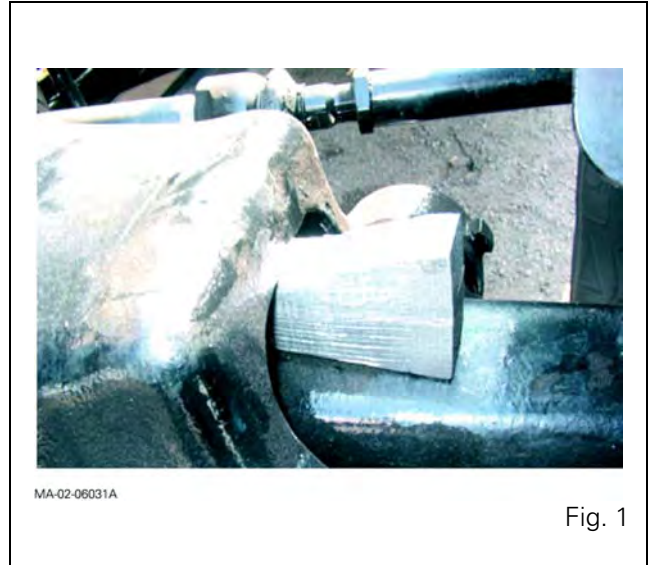

Fig. 1
2. Ensure that the suspended front axle (if fitted) is in raised position and position chocks between the upper control arm and front axle housing (Fig. 1). Remove the bleed screw from the control unit (see chapter 9).